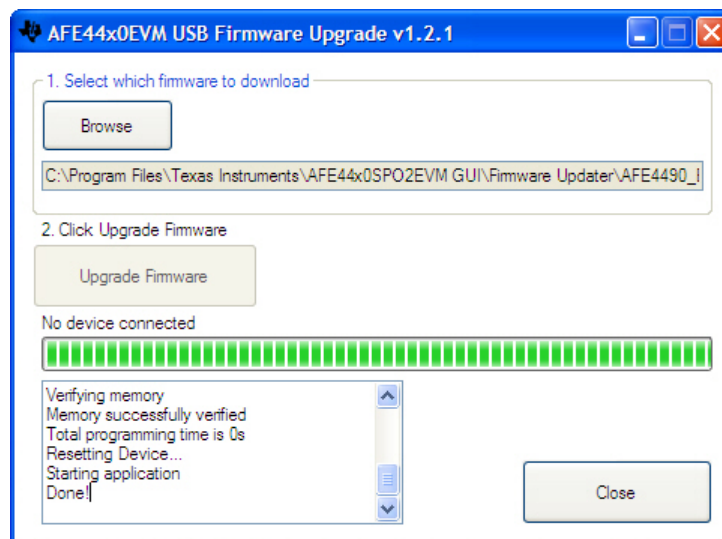

Figure 35. PC Application Firmware Upgrade – 5
- Once the device is programmed successfully, as shown in Figure 35, the device resets and reloads with the new firmware. Close the *Firmware Upgrade* application by clicking on the **Close** button and the PC GUI application automatically restarts the GUI after 4-5 seconds.